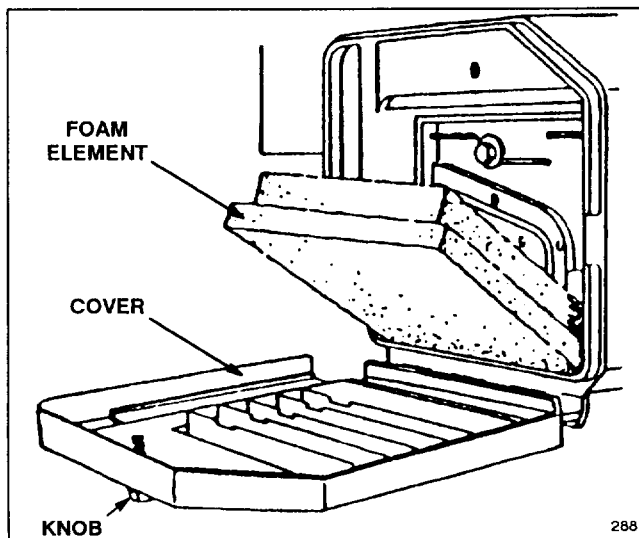

Figure 18
2. Rotate knob securing air cleaner cover to engine until cover can be removed. Clean cover thoroughly (Fig. 18).
3. If outside of foam element is dirty, remove it from air cleaner body (Fig. 18). Clean thoroughly.